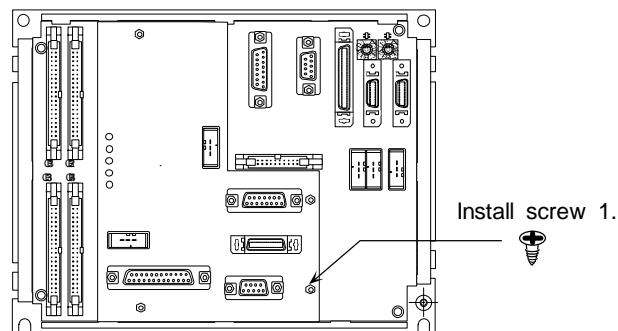

Fig. 4
4. Mount the relay card on the base I/O unit, and fix with screw 1 that was removed in step 1. (Fig. 4)